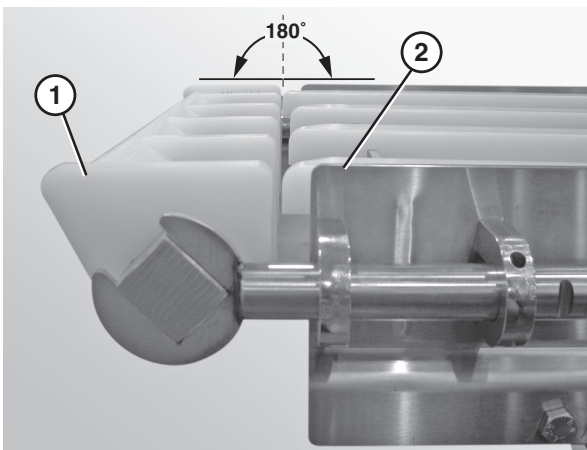

Figure 29
5. Ensure that the nose bar pucks (Figure 29, item 1) are in line with the conveyor frame (Figure 29, item 2).